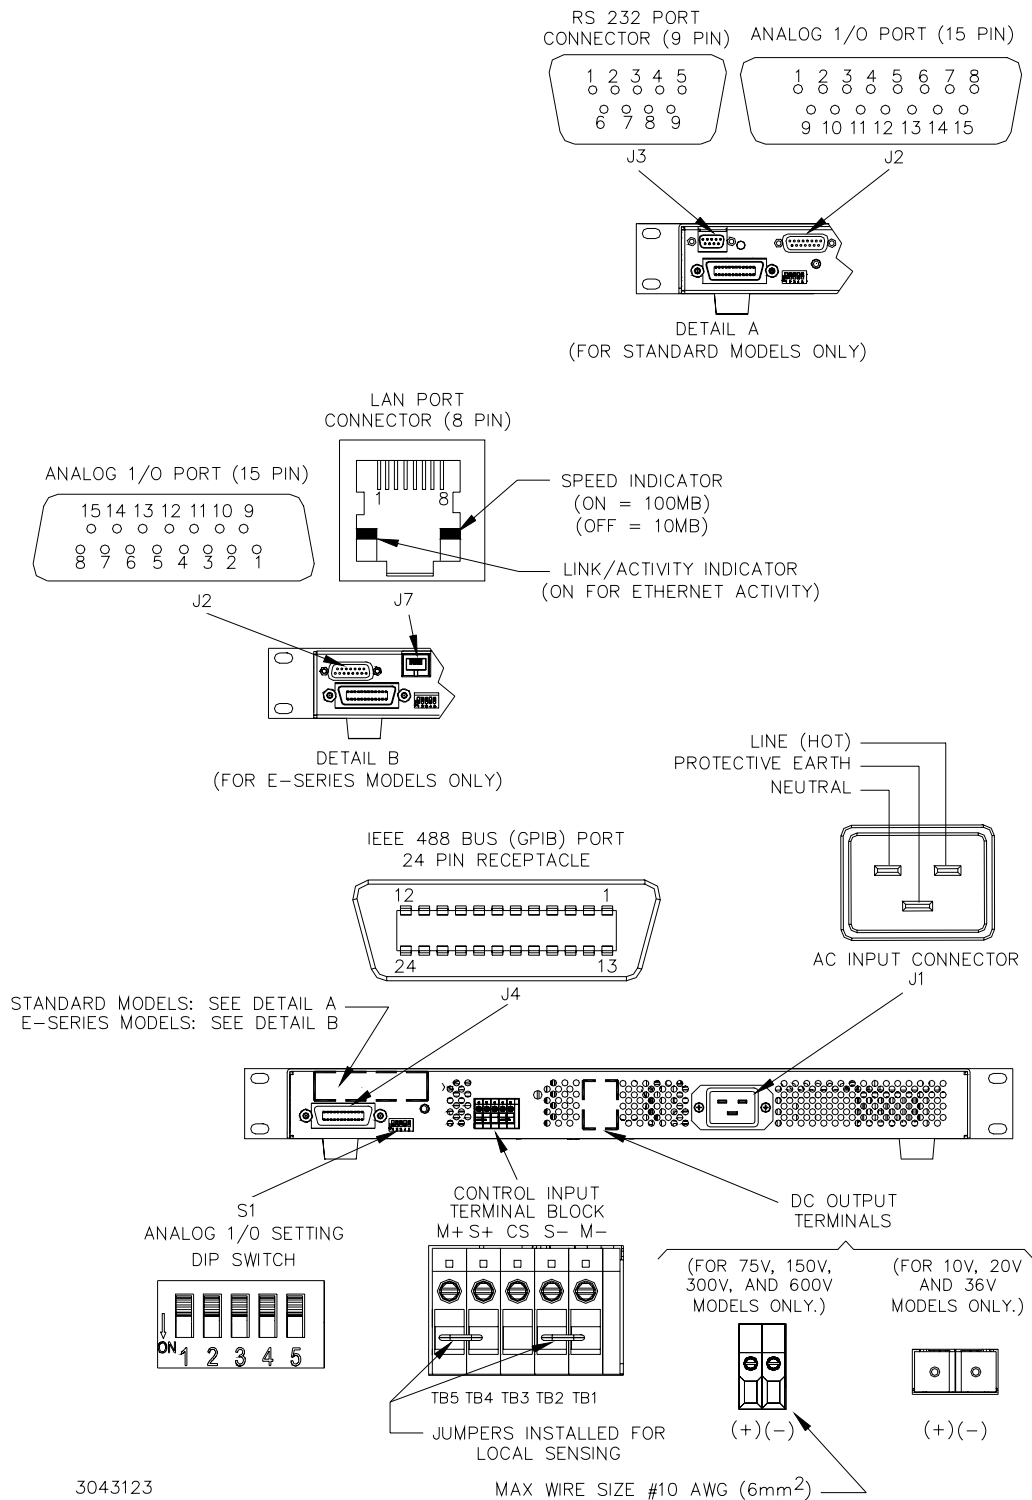

FIGURE 2-2. KLP SERIES, REAR PANEL SWITCH AND CONNECTORS
2.2.2 REAR PANEL CONNECTORS AND SWITCHES. Refer to Figure 2-2 and Tables 2-2 through 2-7.